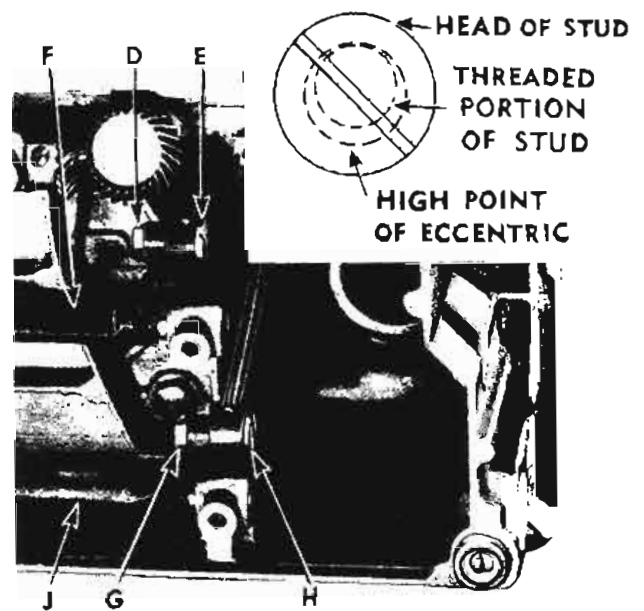

Fig. 10. Feed Dog Adjustments
1. Loosen nut D, Fig. 10.
2. Turn eccentric stud E until high point of eccentric is toward rear of machine bed, as shown in Fig. 10 (inset), making distance between stud E and feed lifting rock shaft F as short as possible.
1. Loosen nut G, Fig. 10.
2. Turn eccentric stud H until high point of eccentric is toward rear of machine bed, as shown in Fig. 10 (inset), making distance between stud H and feed rock shaft J as short as possible.